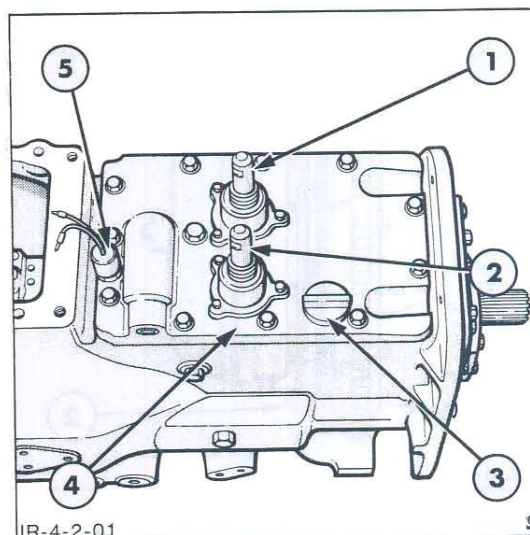

Figure 49
2. Ensure the gearshift lever and range lever are in neutral. Remove the cover plate retaining bolts then remove the cover plate and gasket, Figure 49.